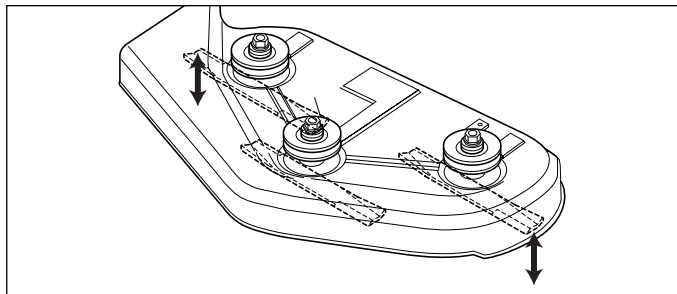
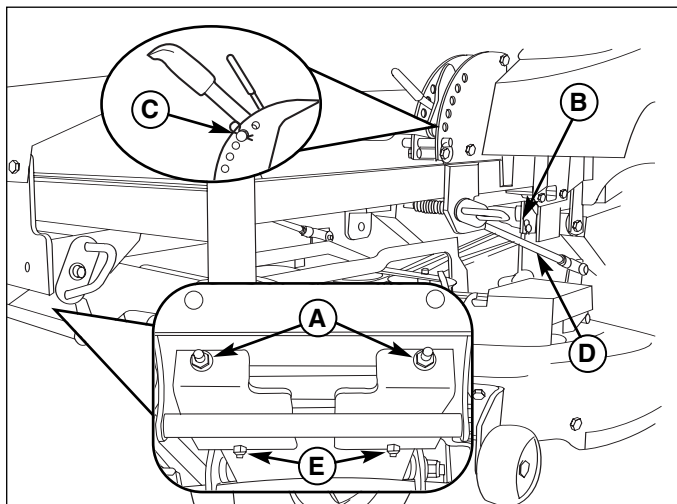

Figure 18. Orient Blades Side-to-Side
Figure 20. Mower Leveling
3. Place the mower cutting height pin in the 4th hole from the bottom (see insert, Figure 20). Arrange the outside mower blades so that they are pointing from side-to-side (Figure 18).
4. Measure the distance between the outside tips of each blade and the ground (Figures 18 & 19). If there is more than 1/8" (3mm) difference between the measurements on each side, proceed to step 5. If the difference is 1/8" (3mm) or less, proceed to step 6.
5. Use the rear leveling links (B, Figure 20) to adjust the side-to-side leveling of the deck. Repeat step 4 if necessary.
8. Check the length of the hanging rods. The rear (D, Figure 20) should be 15" (38,1cm) and is not adjusted. To adjust the pitch of the mower deck, adjust the front leveling nuts only.
9. Loosen the front lock nuts (E, Figure 20).
10. Turn the leveling nuts (A, Figure 20) counter-clockwise to lower the front of mower deck. Turn the nuts clockwise to raise the front of the mower. Make adjustments in small increments, trying to keep tension on both leveling nuts.
11. Tighten the front lock nuts (E).